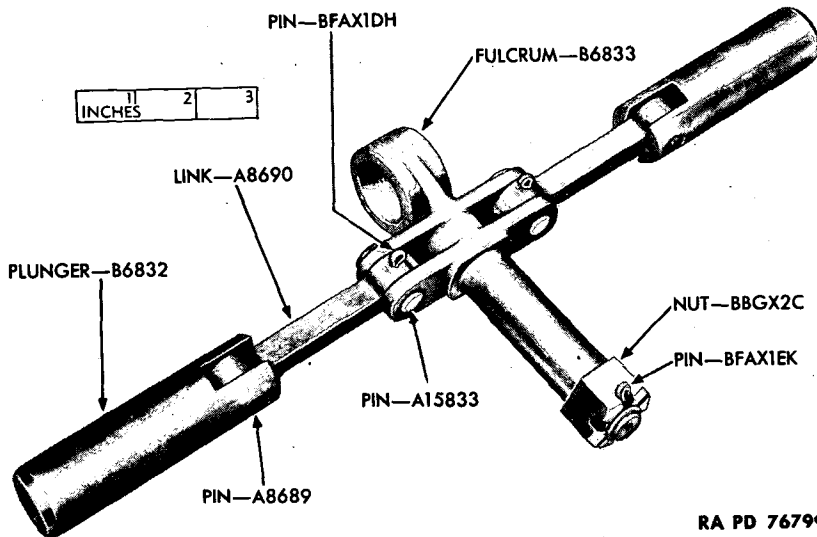

Figure 91—Trail Connecting Mechanism
(1) The trail is of the modified box type. To facilitate disassembly for transport, the trail assembly is separated into two major components, the front trail and the rear trail (figs. 89 and 90). Each trail consists of a right and left member. Each of these members is formed of two flasks welded together to form a box-like section. The side members are connected by transoms. The front and rear trails are connected by means of the trail connecting mechanism (fig. 91). This mechanism consists of plungers actuated by a central fulcrum.
(2) Axle bearings are provided on the front trail to retain the axle when the piece is in the firing or towing positions. Various other brackets, bearings, and fittings are attached to the front and rear trails for accommodation of the elevating mechanism, equilibrators, etc.
(3) The rear trail is similar to the front trail in construction. It is fitted with a spade and handspike socket at the rear.